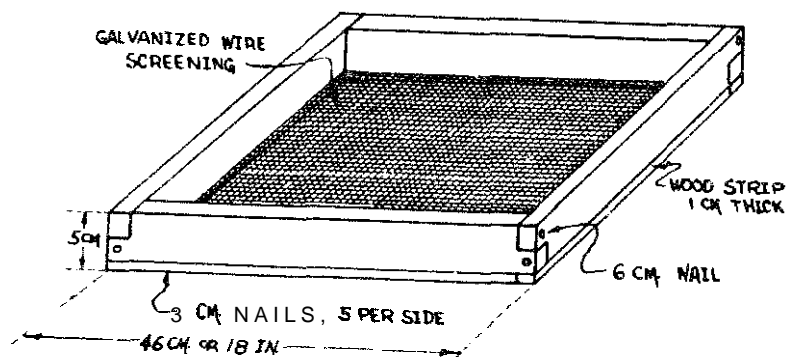

FIGURE 1
As shown in Figure 1, the chute is attached at the top of the 80cm (2'7") support by **nails** whose heads have been removed. This makes it easy to remove the chute when it is not being used. The chute's **lower** end sits on the 2cm x 4cm x 25cm (3/4" x 1 1/2" x 10") support **attached** to the **platform**.
- o Waterproof chest that **will** keep out vapor, to dry and store the grain. A steel drum or sheet metal cabinet would be good. A wooden chest can be used if it is vapor-proof, as in Figures 1, 2, and 3.